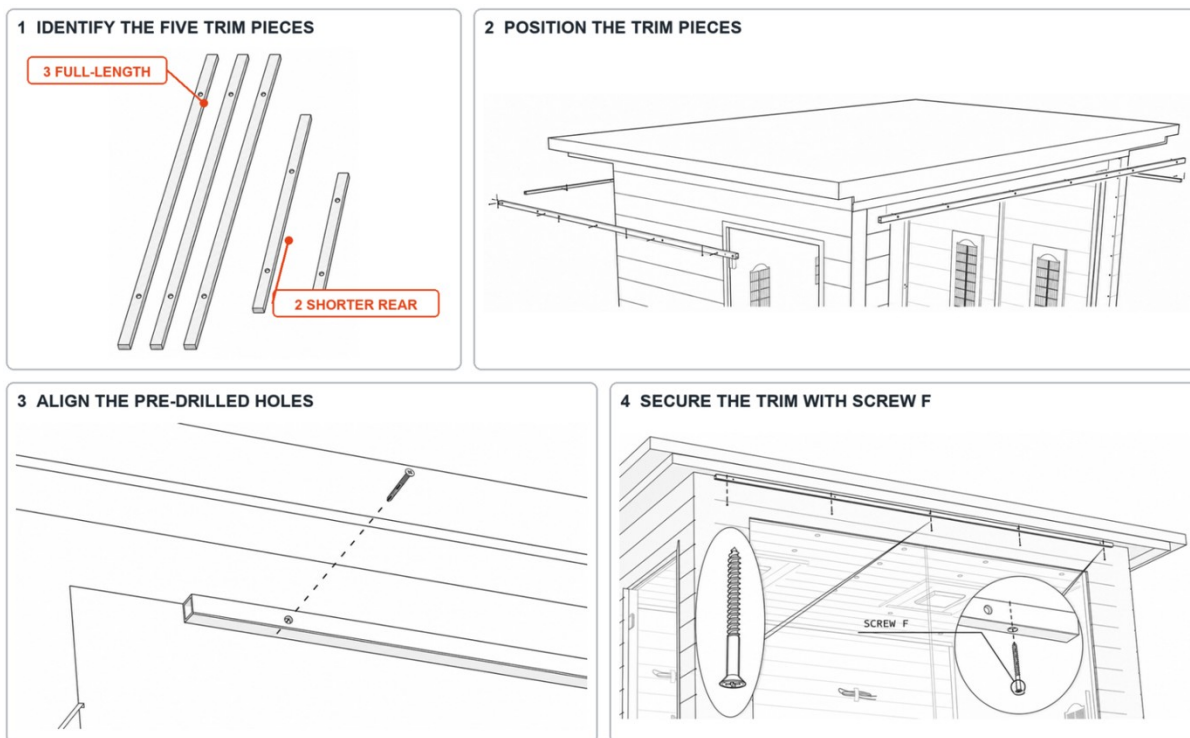

Figure 23. Roof trim: five pieces, wood screws in the vertical row, aluminum screws in the horizontal row.
- Identify the five trim pieces (Figure 23): three full-length pieces for the front and sides, and two shorter pieces for the back, which leave room for the power cord. Each piece has two rows of pre-drilled holes: a horizontal row that fastens to the aluminum sauna body, and a vertical row that fastens to the wooden planks under the sauna eave.
- Repeat for all five trim pieces, with the two short pieces on the Back Wall (B) on either side of the power cord.